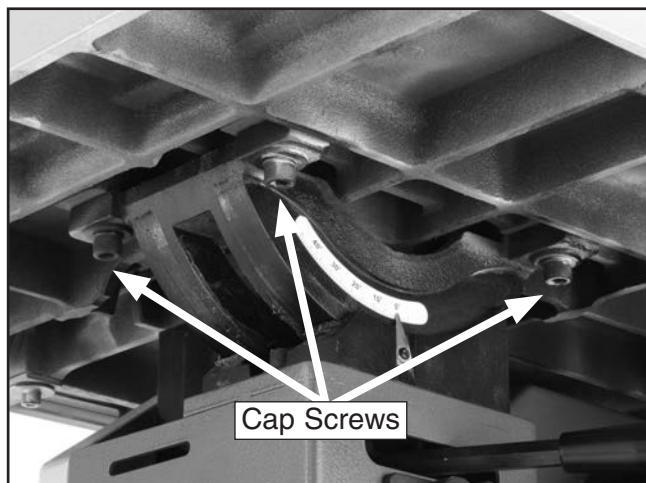

Figure 38. Cap screws securing table to trunnion.
3. Loosen the four trunnion cap screws that secure the table to the trunnions (see **Figure 38**).